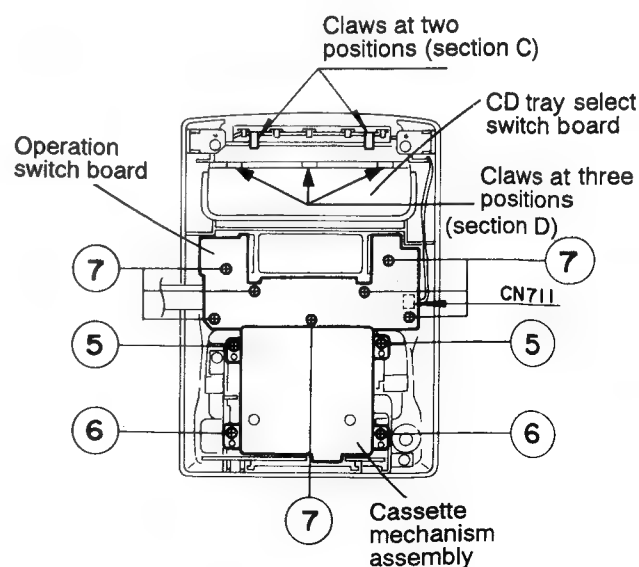

Fig. 5-7
(Fig. 5-7).
◆ Removing the CD tray select and operation switch boards (Figs. 5-7 to 5-9)
1. Remove seven screws ⑦ securing the operation switch board (Fig. 5-7).
2. Remove the 2-pin connector coming from the CD tray select switch board from connector CN711 on the operation switch board (Fig. 5-7).